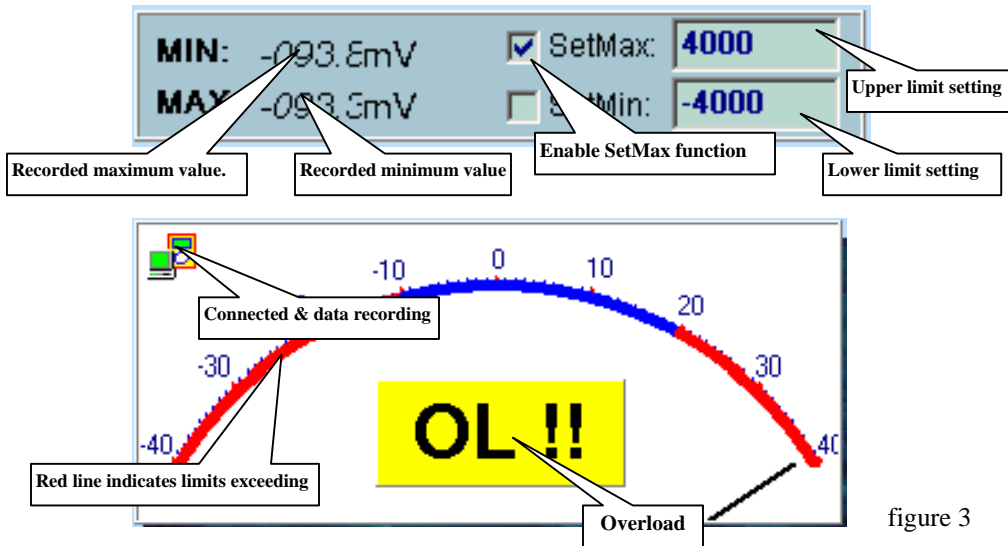

figure 3
F. Max Min Operations (see figure 3)